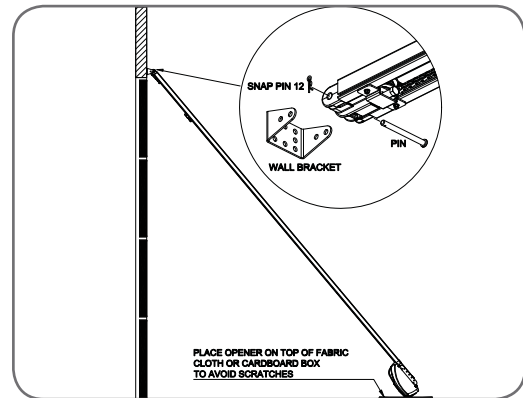

Fig. 15
- Attach the C-Rail assembly to the wall bracket with the 90mm long clevis pin and secure with the supplied snap pin (**Fig. 15**).